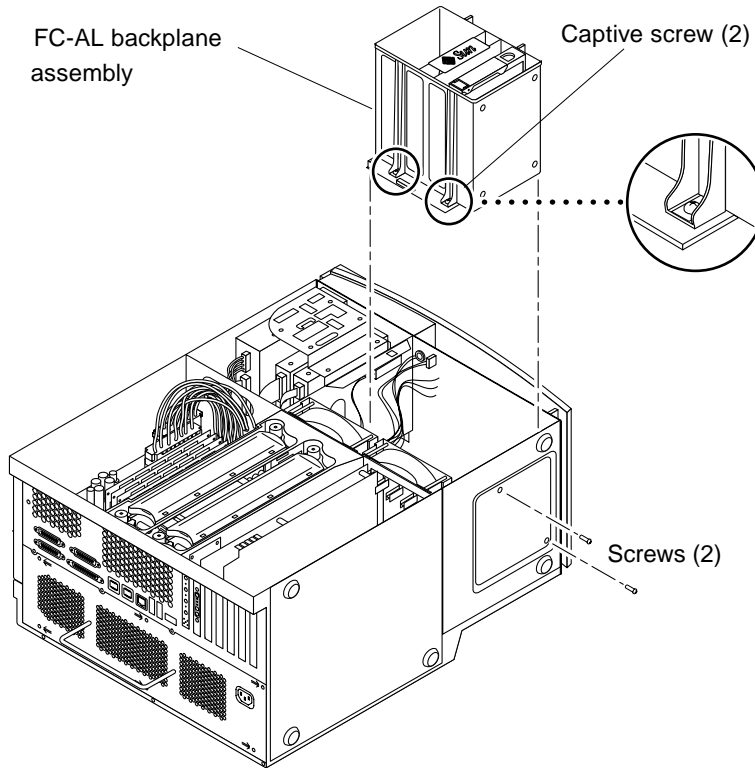

FIGURE 6-16 Removing and Replacing the FC-AL Backplane Assembly
7. **Using a No. 2 Phillips screwdriver, proceed as follows (FIGURE 6-16):**
1. **Position the FC-AL backplane assembly in the chassis and connect it to the chassis cutouts** (FIGURE 6-16).